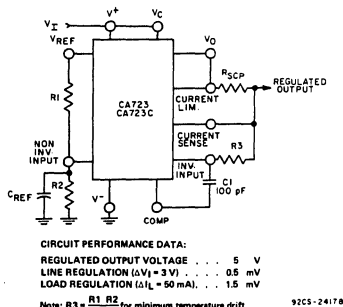

Fig. 23 - Low-voltage regulator circuit ( $V_O = 2$  to 7 volts).
**ELECTRICAL CHARACTERISTICS** at  $T_A = 25^\circ\text{C}$ ,  $V^+ = V_C = V_I = 12\text{V}$ ,  $V^- = 0$ ,  $V_O = 5\text{V}$ ,  $I_L = 1\text{mA}$ ,  $C_1 = 100\text{pF}$ ,  $C_{REF} = 0$ ,  $R_{SCP} = 0$ , unless otherwise specified. Divider impedance  $R_1 R_2$  at non-inverting input, Term. 5, =  $10\text{k}\Omega$  (see Fig. 23).
Note 2: For  $C_{REF}$ , see Fig. 23.